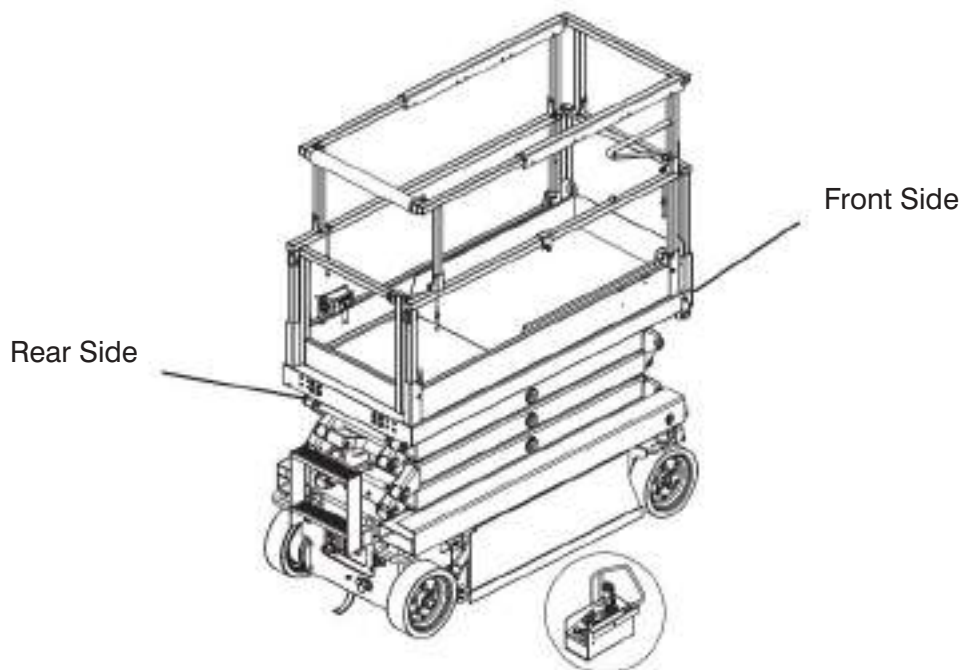

Figure 3-11. Control Box with Long Cable Outside Platform
- **Ensure the operator and control box console are properly oriented in the direction the aerial platform is facing (see Figure 3-11).**